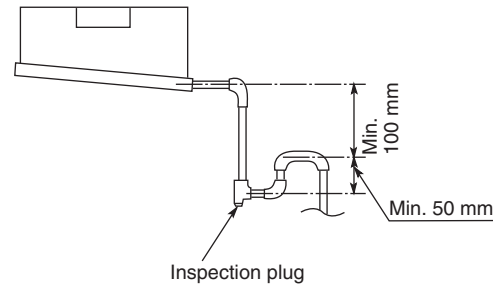

Fig. 3-81
- (5) Also, in another part of the pipe arrangement, prepare traps with an inspection plug to clean dust or debris that may cause leaking of water. (Fig. 3-81)